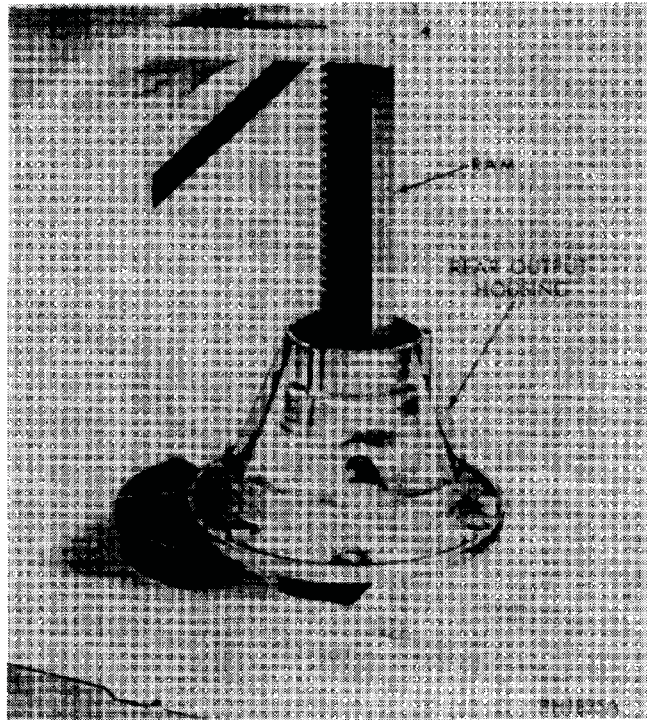

Fig. 19—Pressing Rear Output Shaft Rear Bearing out of Retainer
- (1) Remove speedometer driven gear from housing.
- (2) Remove yoke nut and washer (if not removed during disassembly). Remove yoke.
- (3) Tap yoke end of shaft with soft hammer and remove shaft from housing. Remove speedometer drive gear from shaft. If it is not on shaft, refer to step (5).
- (4) Remove 6 capscrews and separate rear output housing from differential housing.
- (5) Remove shim pack from rear face of rear bearing. Also remove speedometer drive gear from housing if it did not already remove with rear output shaft. (Sometimes shim pack and speedometer drive gear will stay on output shaft when it is removed.)
- (6) With screwdriver or other suitable tool, pry seal out of output housing.
- (7) Tap or press bearing from output housing (Fig. 19).